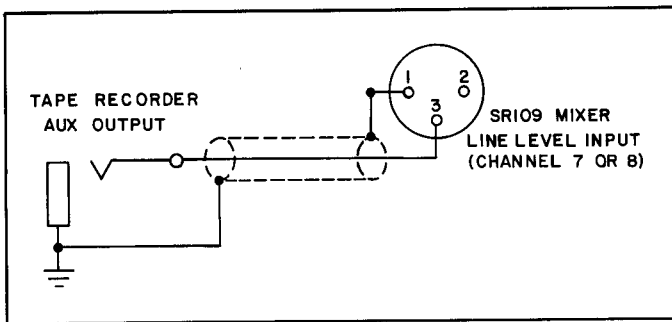

FIGURE 10. TAPE PLAYBACK
To play tape-recorded material through the Mixer, connect a cable from the tape recorder auxiliary or line level output to the channel 7 or 8 LINE LEVEL Input Jack (19). For unbalanced tape recorder outputs, connect a single-conductor, shielded cable as shown in Figure 10, Page 11. Connect the tape recorder output cable shield to pin 1 and the "hot" conductor to pin 3 of the SR109 LINE LEVEL Input Jack.